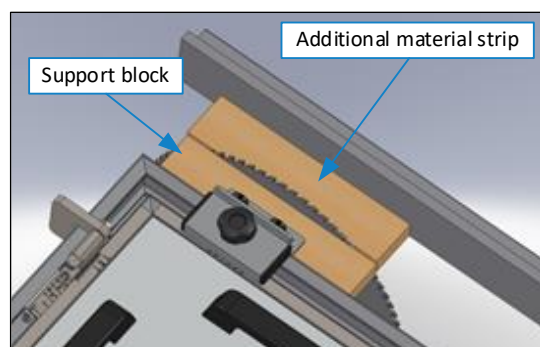

Figure 3: Adjusting the DSG-A (3)
6. Carefully push the fence with the material up to the saw blade (⇒ Figure 3).